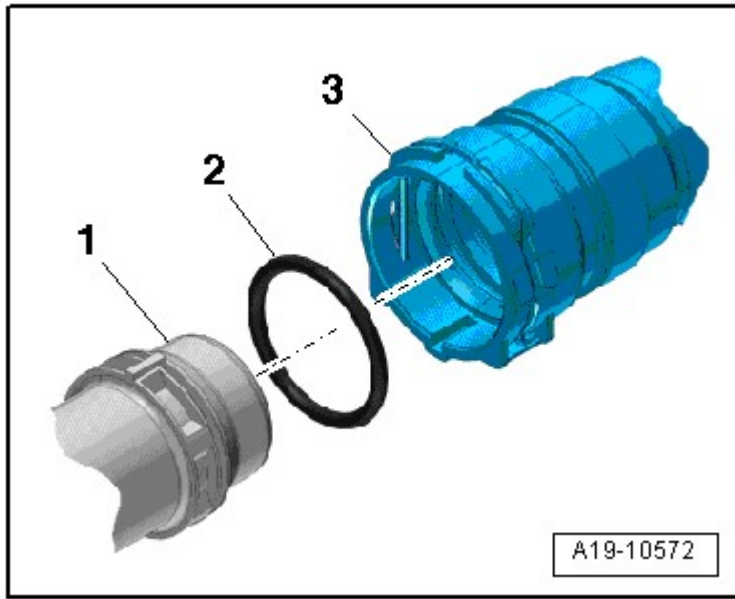

Fig. 101: Connecting Coolant Hose To Coupling
- Connect the coolant hoses with the connector coupling. Refer to **Fig. 101**.